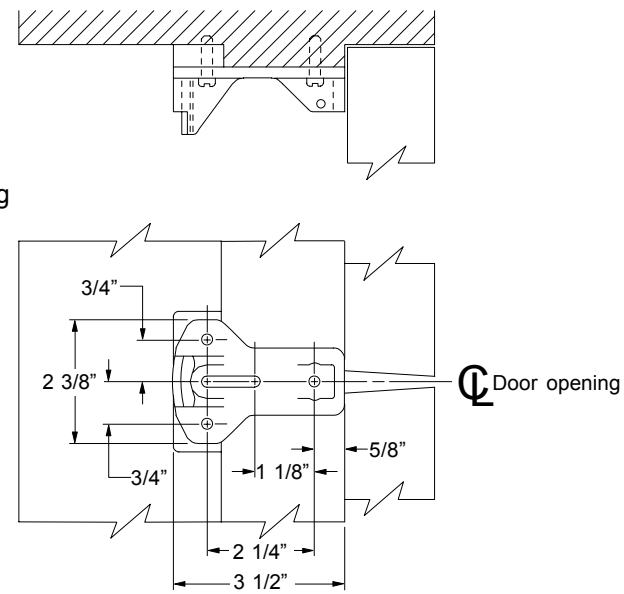
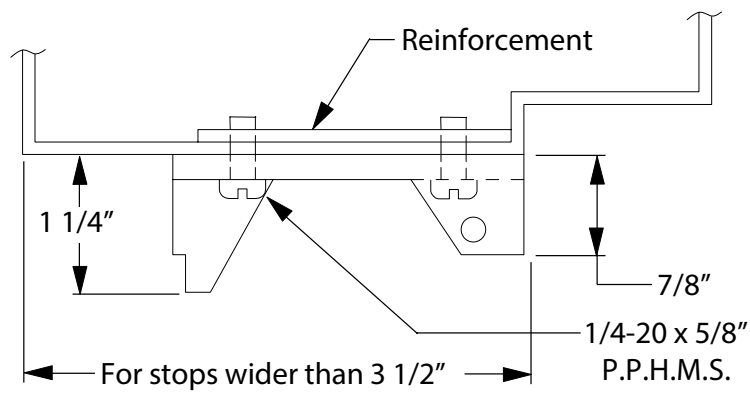

Figure 3
Figure 6
2. Line up top mullion fitting with center of door opening and flush with closed doors as shown in Figure 3 and install. See Figures 6, 7, and 8 on reverse side for optional frame conditions.